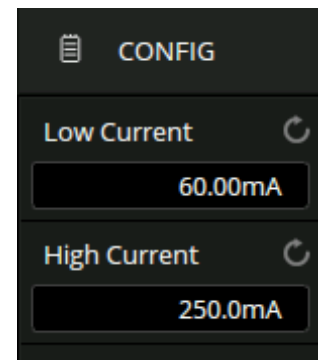

Figure 19.23 Transient Response Configuration Menu
1. Touch **Config** to display the signal menu shown in figure 19.23.